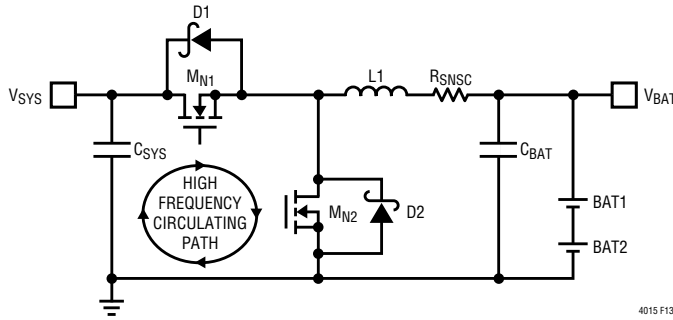

Figure 13. High Speed Switching Path
1. Keep M1, M2, D1, D2 and CSYS close together. The high di/dt loop formed by the MOSFETs, Schottky diodes and CSYS shown in Figure 13 should have short wide traces to minimize high frequency noise and voltage stress from inductive ringing. Surface mount components are preferred to reduce parasitic inductances from component leads. Connect the drain of the top MOSFET and cathode of the top diode directly to the positive terminal of CSYS. Connect the source of the bottom MOSFET and anode of the bottom diode directly to the negative terminal of CSYS. This capacitor provides the AC current to the MOSFETs.